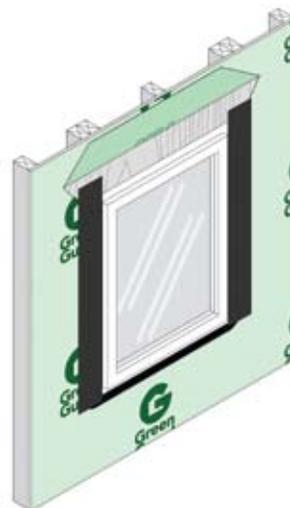

FIGURE 4D: INSTALLATION OF WINDOW JAMB FLASHING
4. Install the jamb flashing so that it overlaps the sill flashing (see Figure 4D). Notice that the flashing will now seal directly to the window flange and the sheathing, while still integrating the edge of the building wrap.